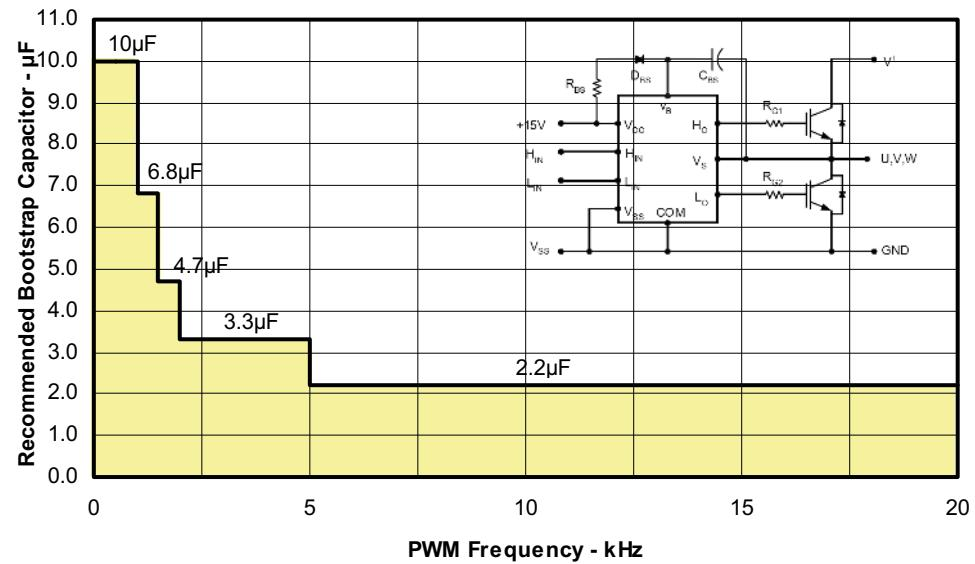

Figure 10. Recommended Bootstrap Capacitor Value vs. Switching Frequency
3. Value of the boot-strap capacitors depends upon the switching frequency. Their selection should be made based on IR design tip DT04-4, application note AN-1044 or Figure 10. Bootstrap capacitor value must be selected to limit the power dissipation of the internal resistor in series with the VCC. (see maximum ratings Table on page 3).